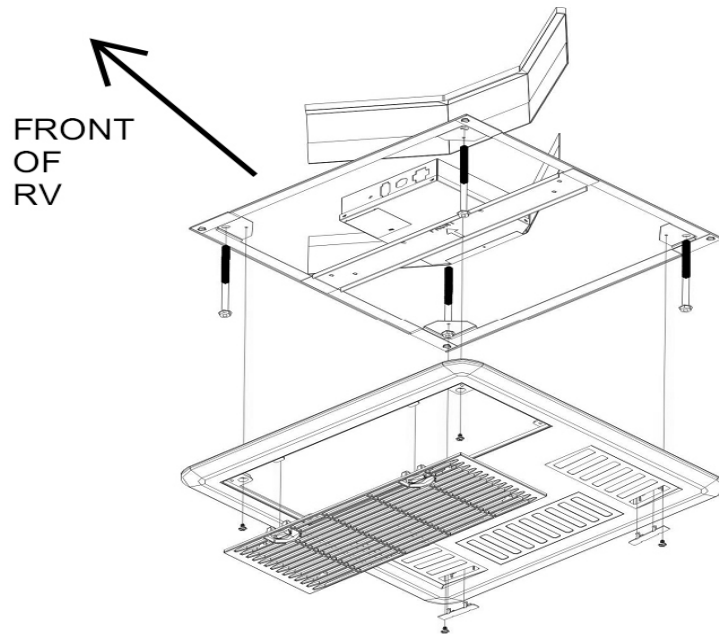

FIG. 6
3. Position the mount frame into the ceiling opening. See Figure 6.
8. Connect 115VAC and 12VDC wires, Thermistor (Freeze Sensor), and thermostat cable according to the wiring diagram. Install the cover over the electrical box using the small screw provided as shown in Figure 6.